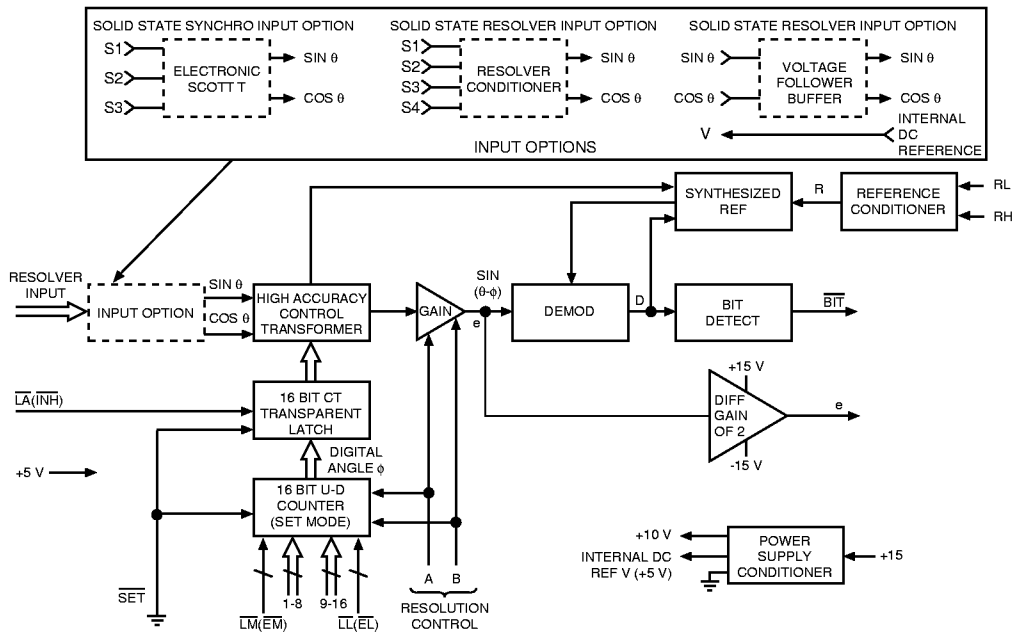

FIGURE 14. CT MODE BLOCK DIAGRAM
FIGURE 14 illustrates a block diagram of the Control Transformer (CT) mode. The procedure to enable this function is to disable the up-down counter by setting S (pin 30) to logic "0" and using the digital output lines (which are bidirectional) as digital inputs.